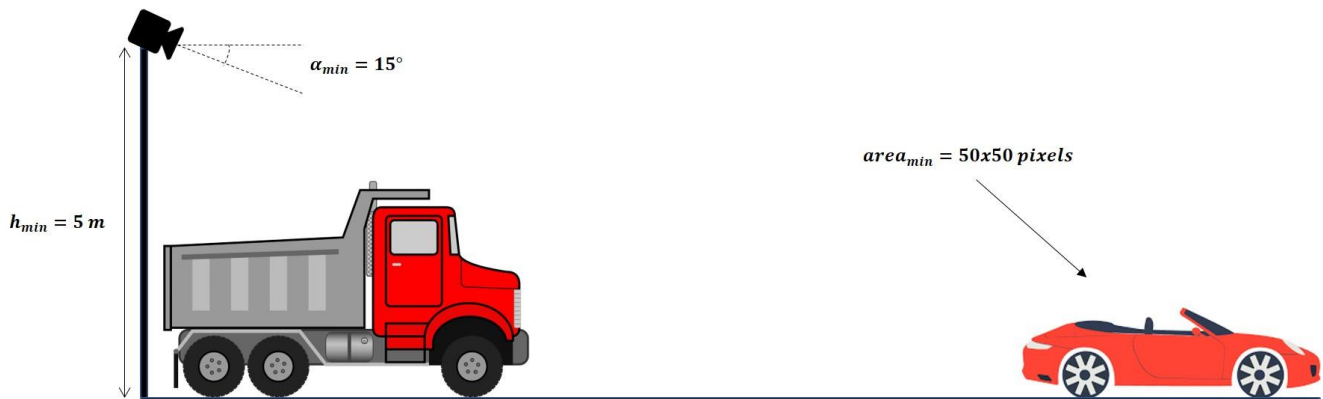

Figure 2 – Constrains on the camera installation, in terms of minimum height and inclination angle
2. It must be installed respecting the constraints represented in Figure 2